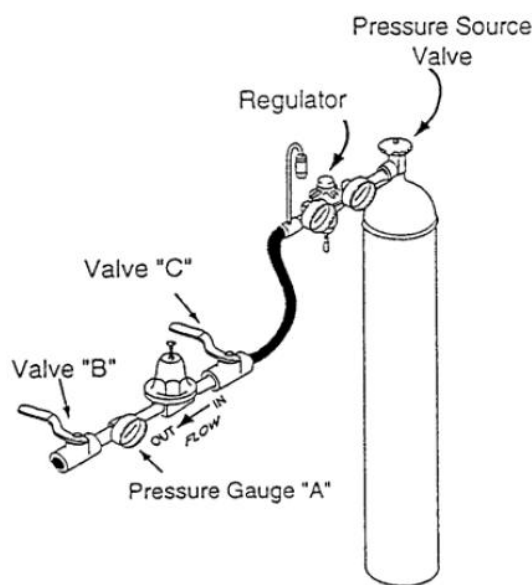

Figure 1
1. Connect the pressure building regulator to a nitrogen pressure source as shown in Figure 1.